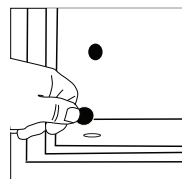

Figure 5
6. Replace the mounting hole cover inside of safe over the 2 holes used (Figure 5).